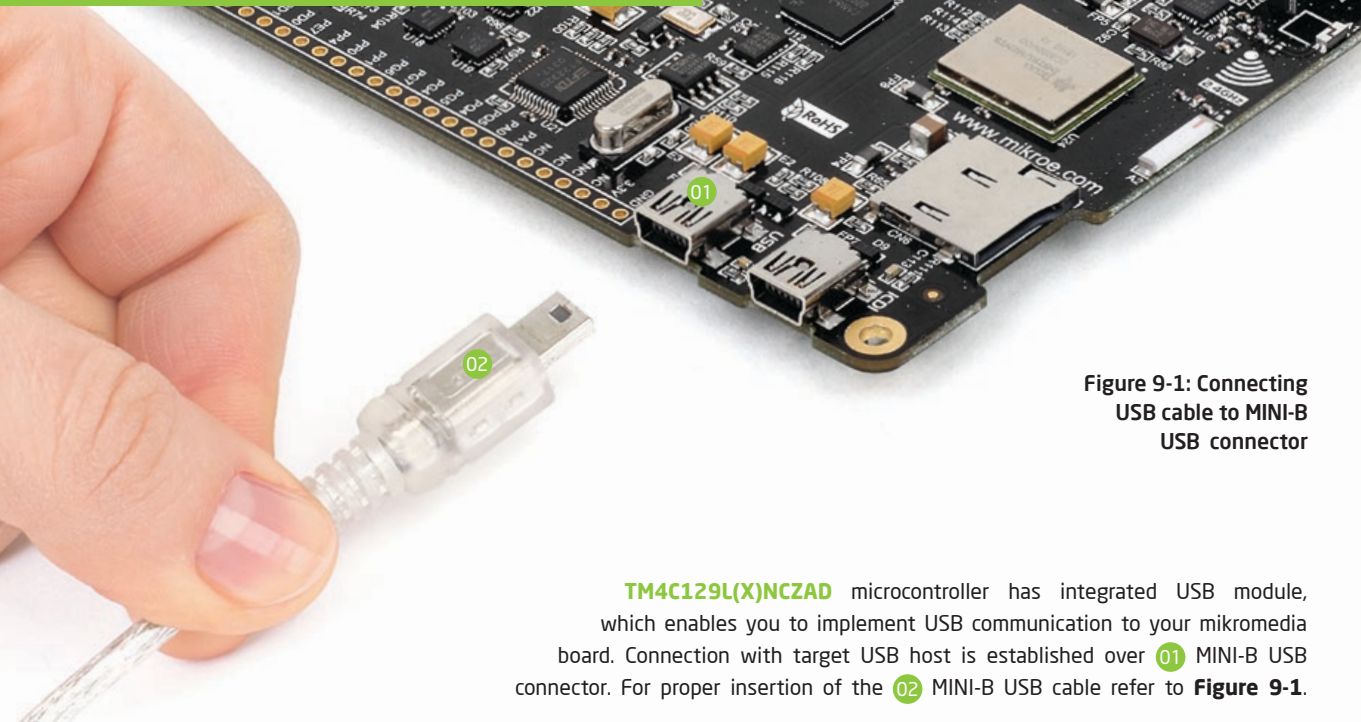

Figure 9-1: Connecting USB cable to MINI-B USB connector
**TM4C129L(X)NCZAD** microcontroller has integrated USB module, which enables you to implement USB communication to your mikromedia board. Connection with target USB host is established over **01** MINI-B USB connector. For proper insertion of the **02** MINI-B USB cable refer to **Figure 9-1**.